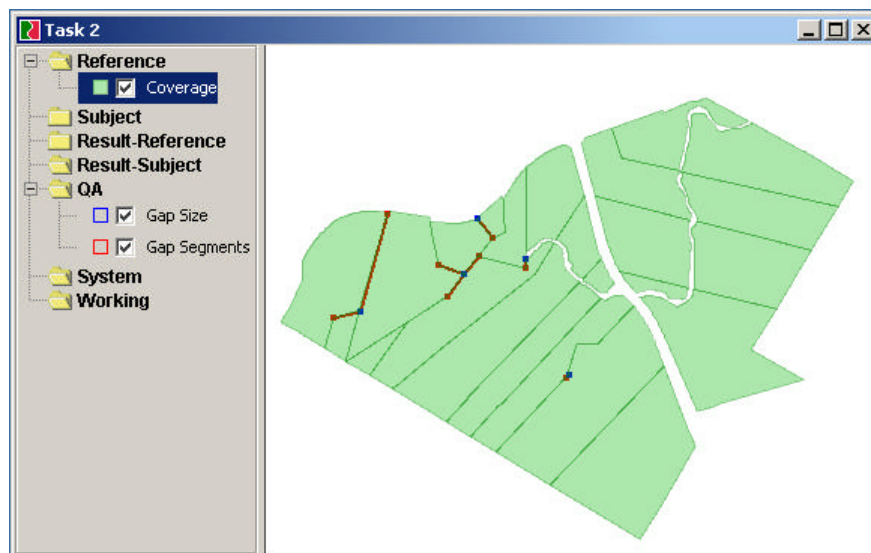
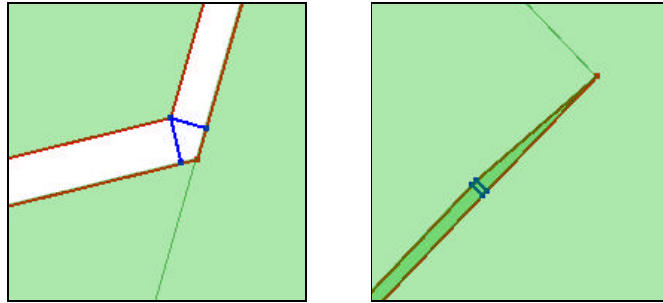

Figure 3-4 - QA layers created by the Find Coverage Gap function
Figure 3-5 - Closeups of gaps showing Gap Segment indicators (red) and Gap Size indicators (blue)
- When the Find Coverage Gap function executes it will create two new layers in the QA category (see Figure 3-4 and Figure 3-5 below):